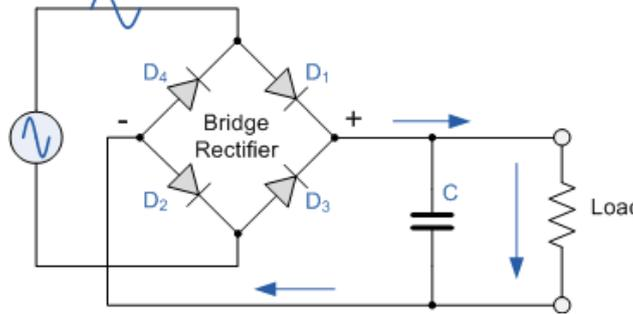

Figure 3 Full wave rectifier
4. Connect the circuit for full wave rectifier as shown in figure 3 but without the capacitor.